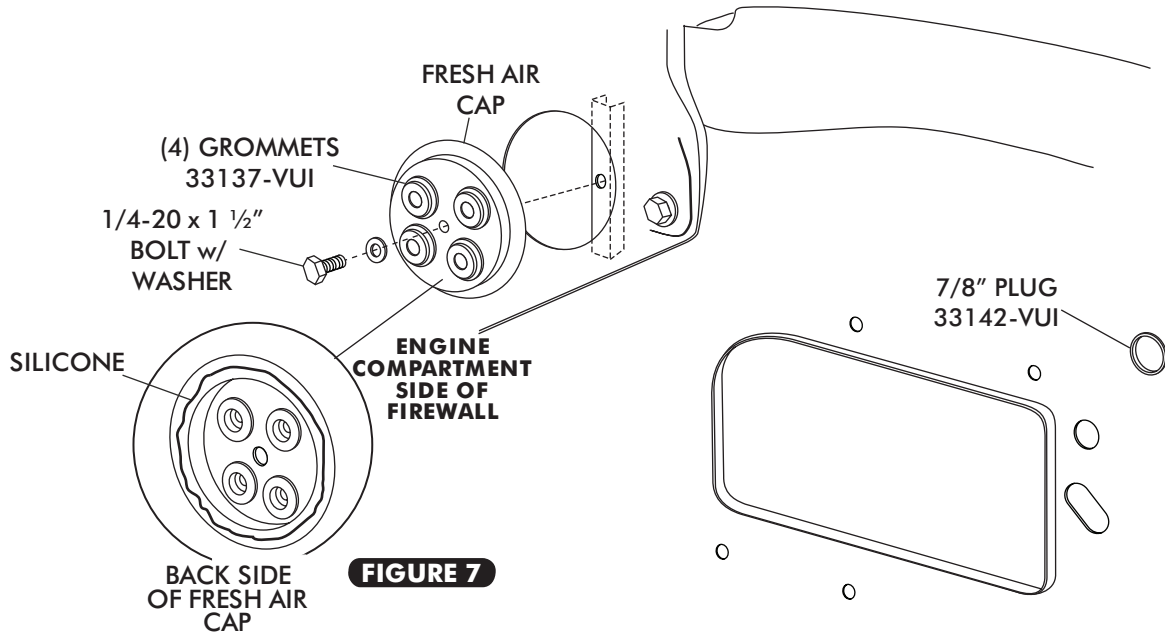

FIGURE 7
- ❑ INSTALL 7/8" PLUG IN OEM HOLE ON FIREWALL. SEE FIGURE 7.
- ❑ INSTALL (4) GROMMETS IN FRESH AIR CAP. SEE FIGURE 7, BELOW.
- ❑ APPLY A 1/4" BEAD OF SILICONE AROUND THE BACK SIDE OF THE FRESH AIR CAP AS SHOWN IN FIGURE 7, BELOW.
- ❑ ATTACH FRESH AIR CAP TO FIREWALL USING A 1/4-20 x 1 1/2" BOLT AND WASHER. SEE FIGURE 7, BELOW. **NOTE: FRESH AIR CAP INSTALLS ON ENGINE SIDE OF FIREWALL.**